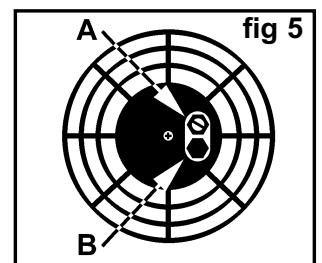

fig 5
The heater has been pre-set in the factory for the use of paraffin and should produce the correct heat output when first used from new. You should run the heater at the pre-set output in order to ensure the long life, safety and reliability of the unit. ( Refer to the specification table for output in kW for your particular model.) Minor adjustments to heat output may be required during the first 60 hours of use whilst the air filter acclimatises. These adjustments will be carried out by the use of the air pressure valve which is provided on the unit. ( See fig.5-A.) Once the unit has completed its running in period it should not be necessary to alter the air pressure again until a new air filter is fitted or a change of fuel takes place.
- 5.1.5. **Adjustments to the heat output.** Locate the air pressure valve which is in the centre portion of the air inlet grill at the back of the unit (see fig.5-A ). Hold the adjusting screw steady with a screwdriver and loosen the locking nut. Turn the screw clockwise to increase the air pressure and thus increase the heat output. Turn the screw anticlockwise to decrease the air pressure and thus decrease the heat output. Make small adjustments only and give the heater time to stabilise before observing the effect on the colour of the dome. When the colour is normal as described above in section 5.1.4(a) tighten the locking nut.
- 5.2.3. You will need to make a preliminary adjustment to the air pressure valve before turning the heater on. Locate the valve which is in the centre portion of the air inlet grill at the back of the unit (see fig.5-A ). Hold the adjusting screw steady with a screwdriver and loosen the locking nut. Turn screw half a turn anticlockwise to decrease air pressure and thus decrease the heat output to compensate for the hotter burning diesel fuel. Retighten the locking nut.
- 5.3.1. If there is any doubt about the efficient operation of the heater, the air pressure/heat output should be checked more exactly using a pressure gauge which will measure up to 30 p.s.i. and have a 1/8" BSP thread. With the heater turned off and unplugged from the mains, remove the threaded plug from below the air pressure valve and attach the gauge.( See fig.5-B ). Start the heater and compare the reading with the chart shown on the right. If the reading differs from the chart this indicates that maintenance is required as laid out in Section 6. You should also investigate whether the environmental